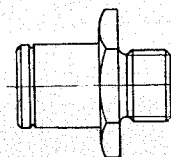

Fig. 69.
- b) the bolt Part No. 7556.50 (Fig. 69), eventually, the tractor being fitted with the hydraulic clutch release besides the hydraulic power lift;